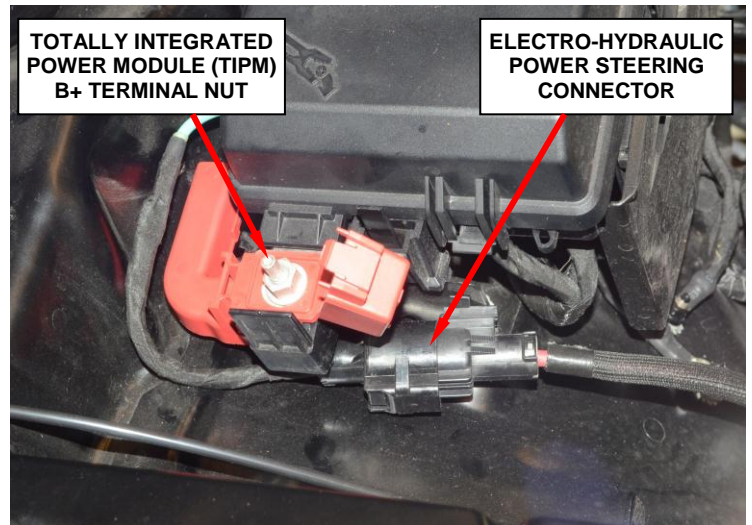

Figure 1 – TIPM Terminal and EHPS Connector
3. Remove and save the Totally Integrated Power Module (TIPM) B+ terminal nut (Figure 1).
4. Disconnect the Electro-Hydraulic Power Steering (EHPS) connector (Figure 1 and 2).